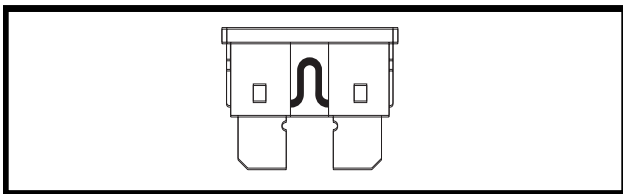

Figure 25. Working Fuse
- Examine the fuse to be sure it is blown. See figures 25 and 25A.